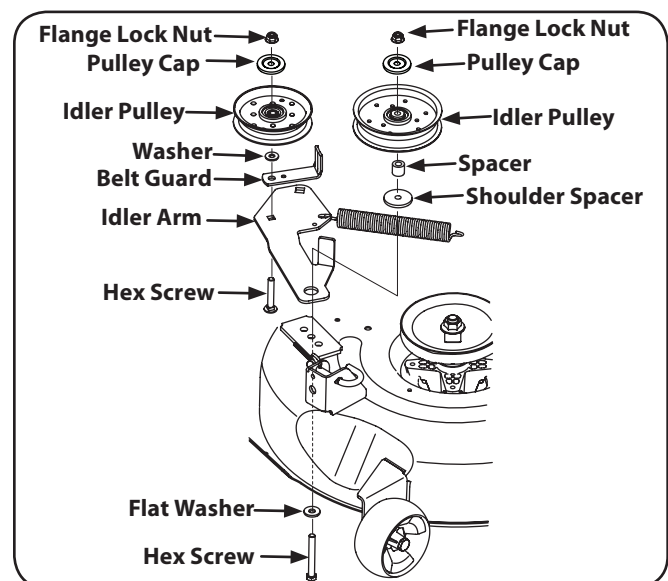

Figure 7-11
3. Remove the two idler pulleys by removing the hex screws and flange lock nuts that secure them to the deck and the idler arm. See Figure 7-11. Do not lose any of the hardware when removing the hex screw and flange lock nut.
6. Place the belt around the idler pulleys removed in step 3 with the "V" side facing in. Once in place, reinstall all the hardware and tighten the flange lock nut to secure the assembly. See Figure 7-11.